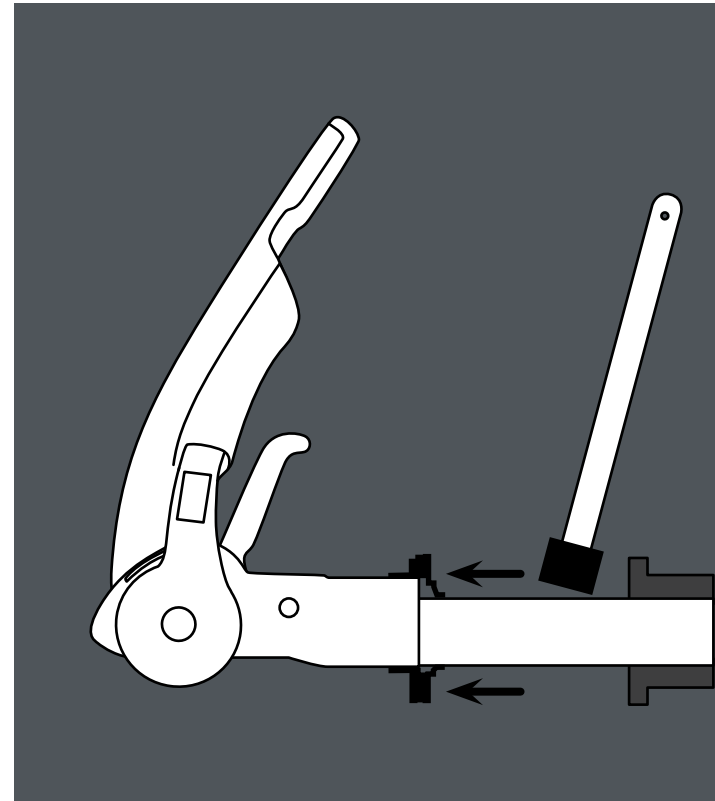

Fig 12 Remedial Action
- Lubricate the drawshaft sleeve via the grease nipples. In addition, push the gaiter forward and grease (DIN 51 825 KTA 3K) the exposed part of the shaft (Fig 12).